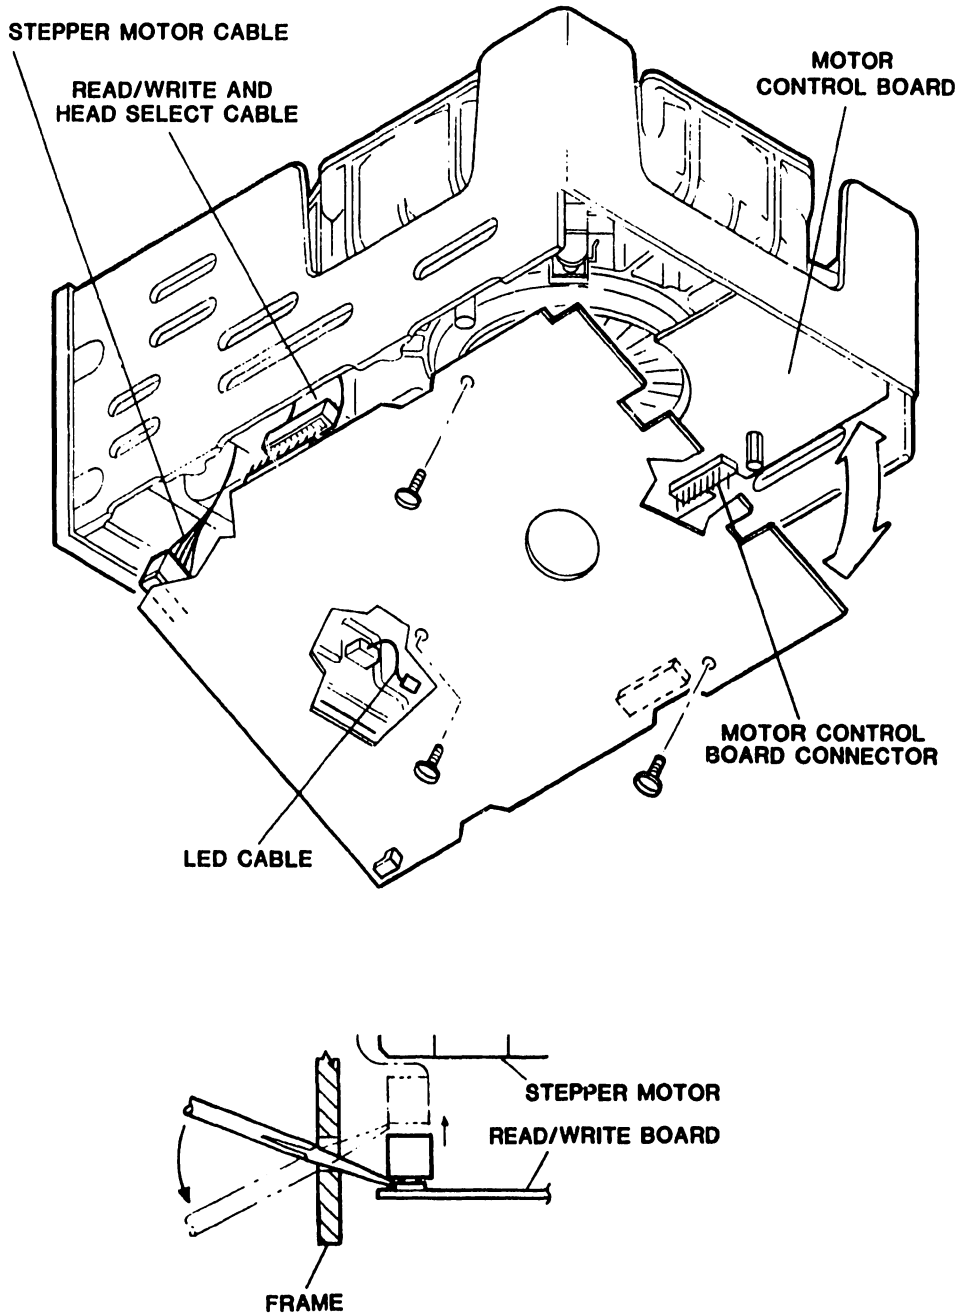

Figure 6-2. Read/Write Board Removal and Replacement
6.3.2 Read/Write Board Removal and Replacement (Figure 6-2)